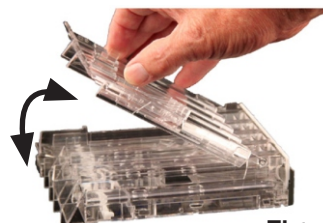

Fig. 1
1. Remove the cassette. Place it front down on a firm surface. Open the back by pinching the two tabs together and levering it open on the hinge. Fig 1.